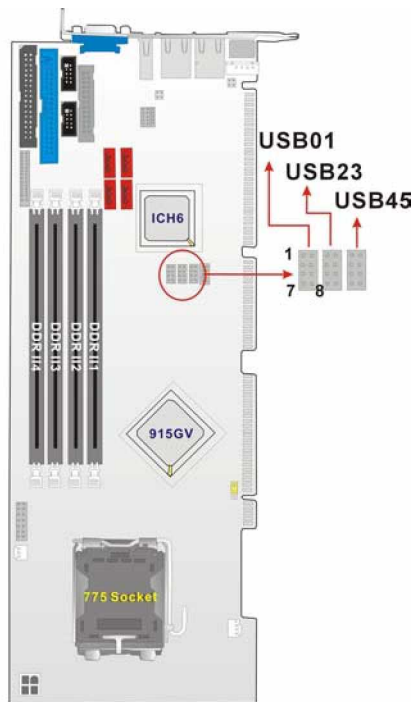

Figure 3-7: USB Port Connector Location
**CN Location:** See Figure 3-7